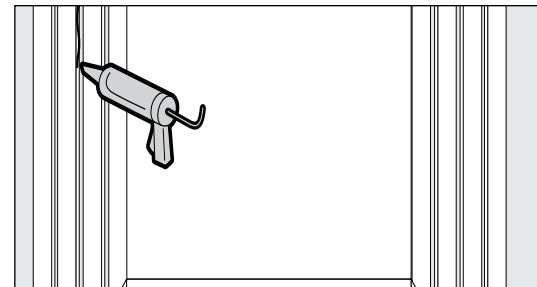

FIGURE 8. Apply adhesive. **composite material must be secured to studs**
- e. Apply adhesive to studs for faucet side panel and place side panel. (Fig. 8)